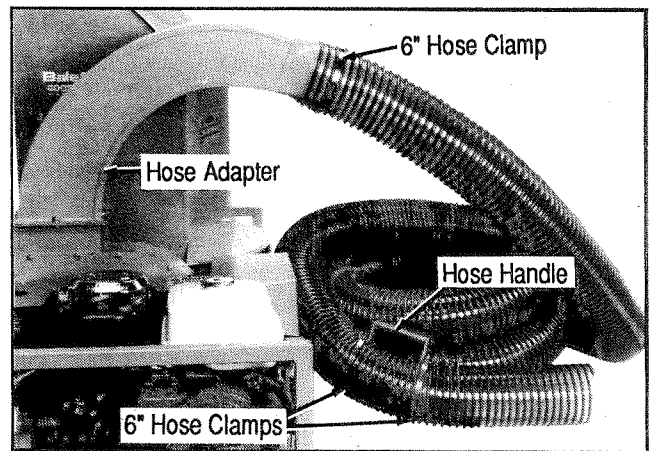

Figure 2. Super-flex Hose & Adapter
1. Mount the hose adapter to the Bale Chopper. See Figure 2.
2. Attach the hose to the hose adapter with a 6" hose clamp, and secure the hose handle to the other end of the hose with two 6" hose clamps. See Figure 2.